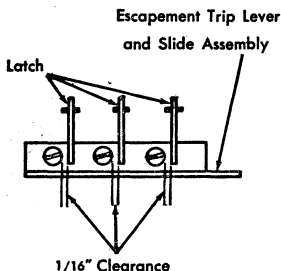

Figure 7. Latch and Escapement Trip Lever and Slide Assembly
3. **ESCAPEMENT TRIP LINK** is to be adjusted so that there is about $\frac{1}{16}$ " clearance between each latch and each eccentric stud (Figure 7).